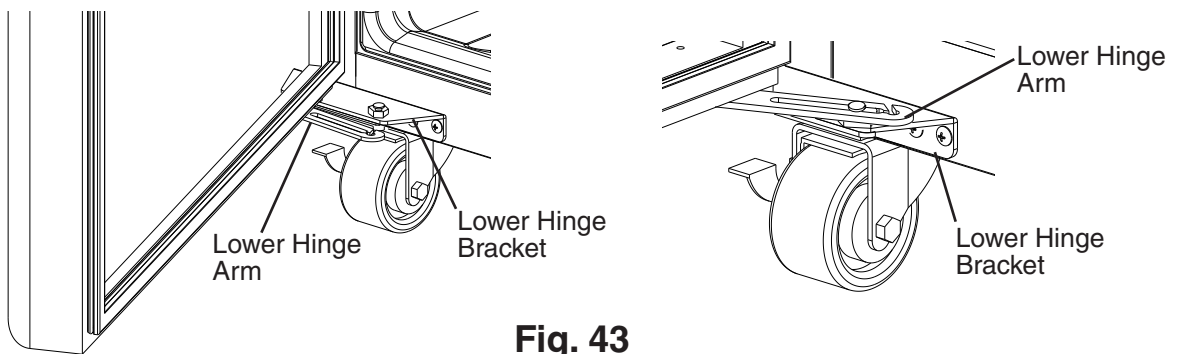

Fig. 43
- 18) Open the door and connect the lower hinge arm to the lower hinge bracket. See Fig. 43.